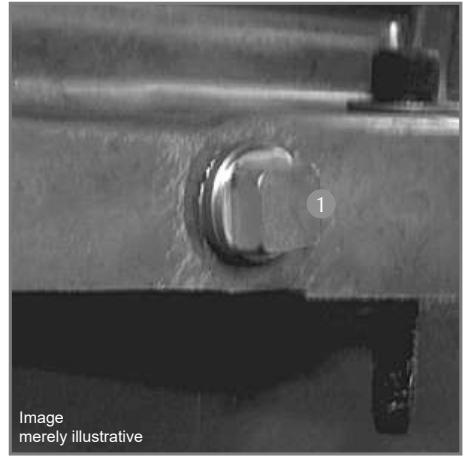

Figure 10
- ✓ As shown in Figure 10, carefully unscrew the oil drain plug (1) to avoid possible accidents, such as burns.